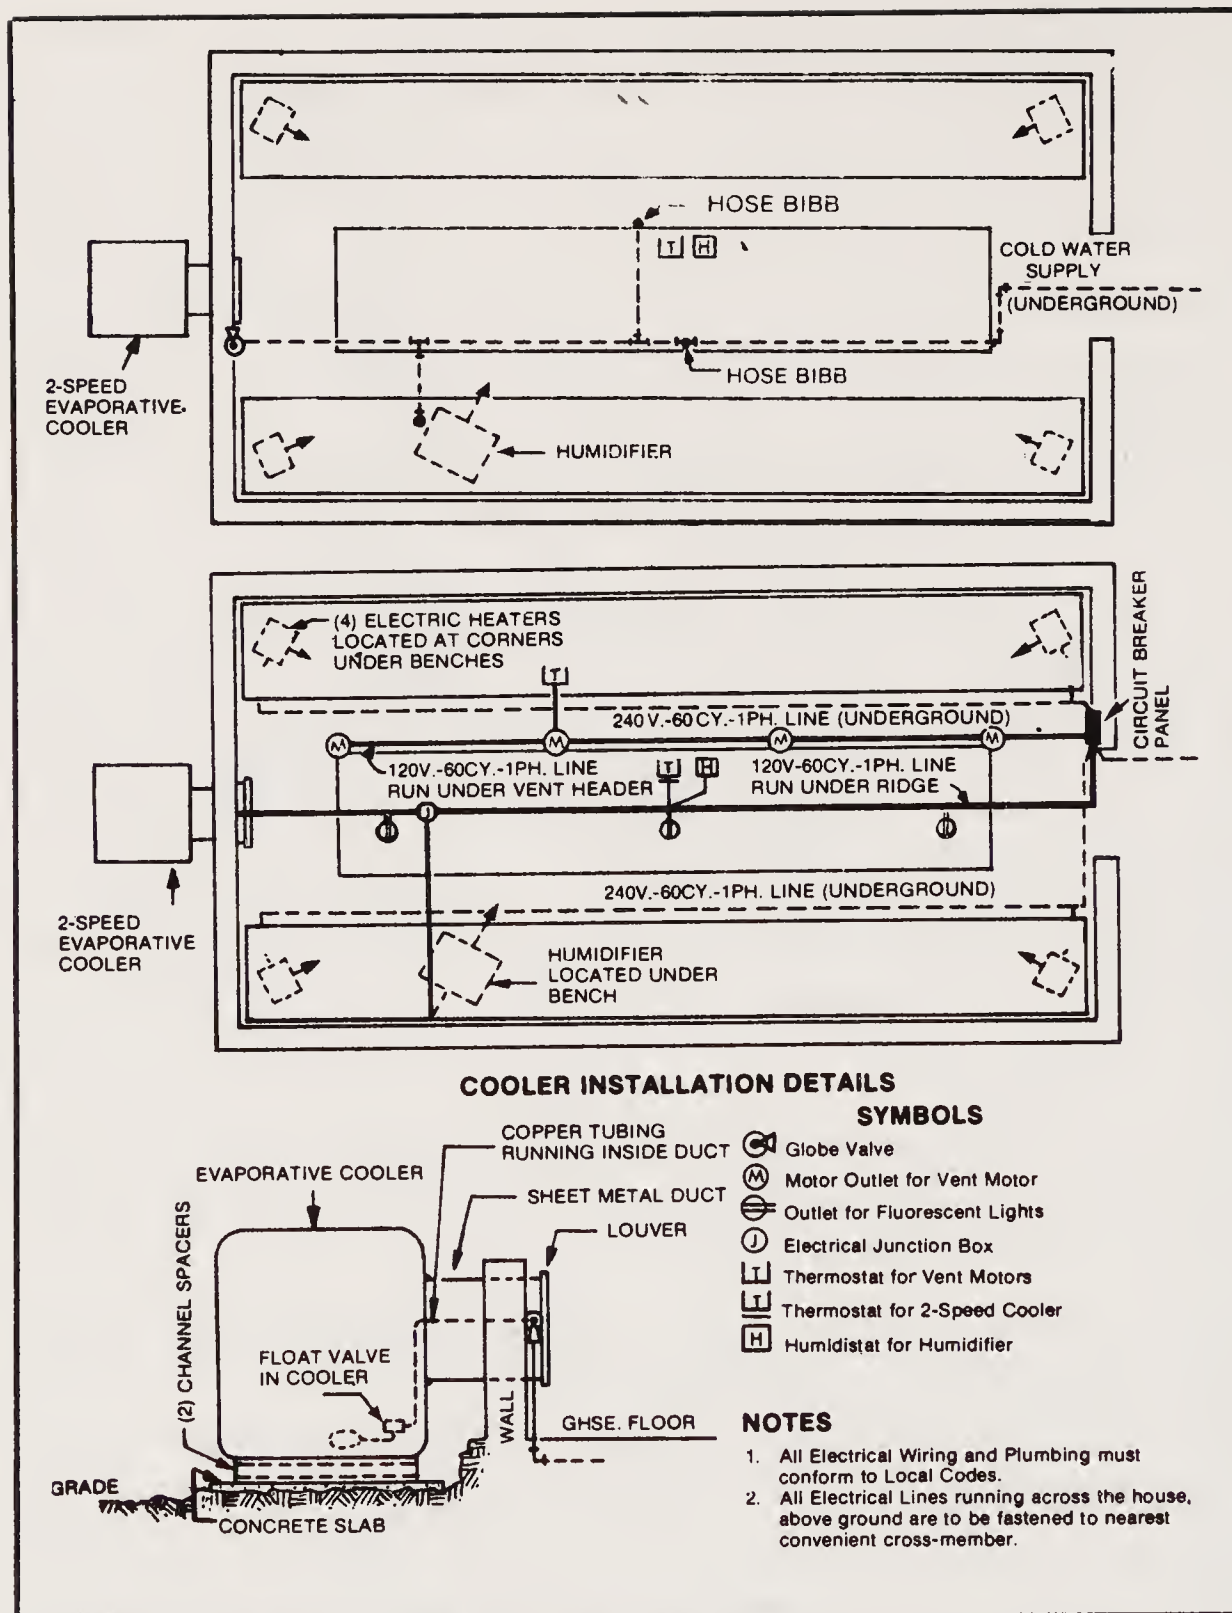

Fig. 1-44. Typical wiring and plumbing layout (courtesy of Lord & Burnham).
**Plumbing.** Many people who are hobby greenhouse enthusiasts do not bother to install indoor plumbing. Instead they depend on the use of outside hoses and buckets of water. For those building larger greenhouses, it is advisable to install an ample number of hose bibbs—strategically located for convenience. A tub is useful for washing pots and general clean-up. Supply it with hot water if possible and install a misting faucet with hose thread so that you can water plants with tepid water. A typical wiring and plumbing layout is shown in Fig. 1-44.